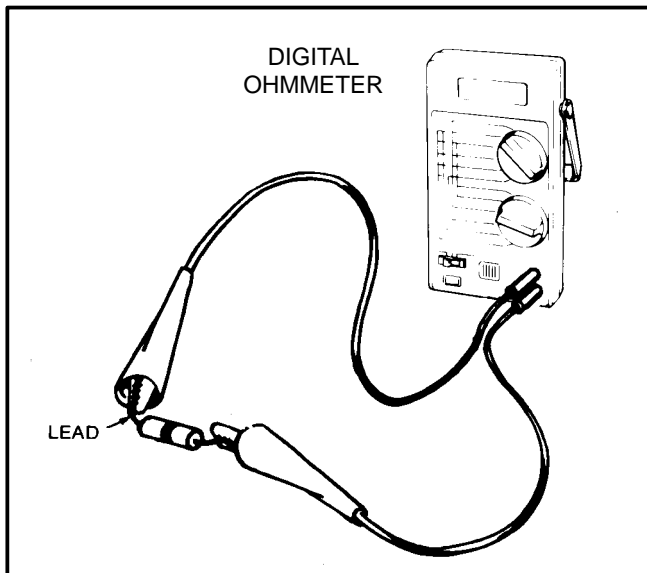

FIGURE 9, TESTING DIODES
1. Connect one ohmmeter lead to each end of diode and observe resistance reading, Figure 9.